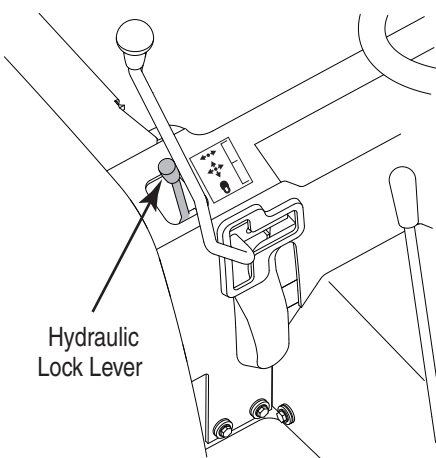

Figure 9
- Shift the tractor's hydraulic lock lever to the center position. See Figure 9 and refer to the tractor Operator's Manual.